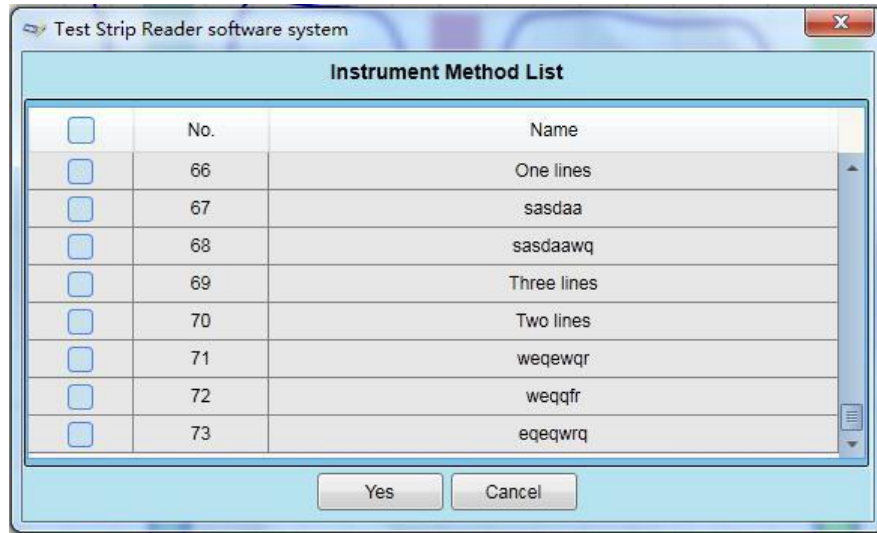

Fig 20 Import from instrument
c. **“Import from instrument”**: Import the method from instrument to PC “Test method” data base, and find it from “Open method” . See as Fig 20.
The Fig.20 show the all test methods save in the current instrument which connect with PC, click the icon “” on the left side to select it, and icon turn to “”. Click “OK” to import this method to the software database.